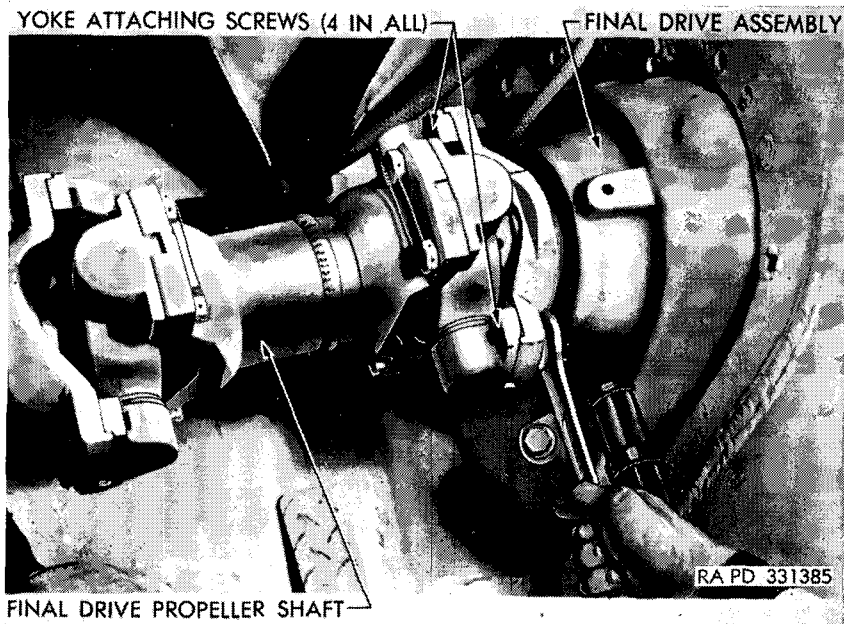

Figure 120. Removing final drive propeller shaft.
- (2) *Final drive propeller shafts.* The final drive propeller shafts are of the same welded tube construction, but shorter and much larger in diameter, with larger universal joint yokes welded to each end (fig. 120). The yokes on each side of the controlled differential are splined to the output shafts and are a slip fit to compensate for movement of the unit and to provide clearance when removing the shafts. The yokes on the final drive input shafts are also splined, but are held on the shafts by a large nut and cotter pin.
- (1) *Remove cover.* Remove four cap screws holding propeller shaft cover to mounting brackets on controlled differential and final drive housing and remove cover.
- (2) *Disconnect outer universal joint.* Remove locking wire and four screws (fig. 120) holding universal joint bearing housing to yoke on final drive input shaft. Slide propeller shaft toward differential as far as it will go and disconnect universal joint.
- (3) *Remove propeller shaft.* Slide propeller shaft toward side
b. INSTALLATION (fig. 120).
- (1) *Install propeller shaft.* Lower propeller shaft assembly into vehicle. Lift shaft into position. Engage yoke on differential output shaft spline and push yoke into differential as far as possible. Remove wire holding housings on cross of final drive universal joint. Line up holes in yoke and install four screws holding housings to yoke. Install locking wire through each two screw heads.
- (2) *Install covers and panels.* Position propeller shaft covers and panels around shafts, and install four screws holding cover to brackets on controlled differential and final drive housing.